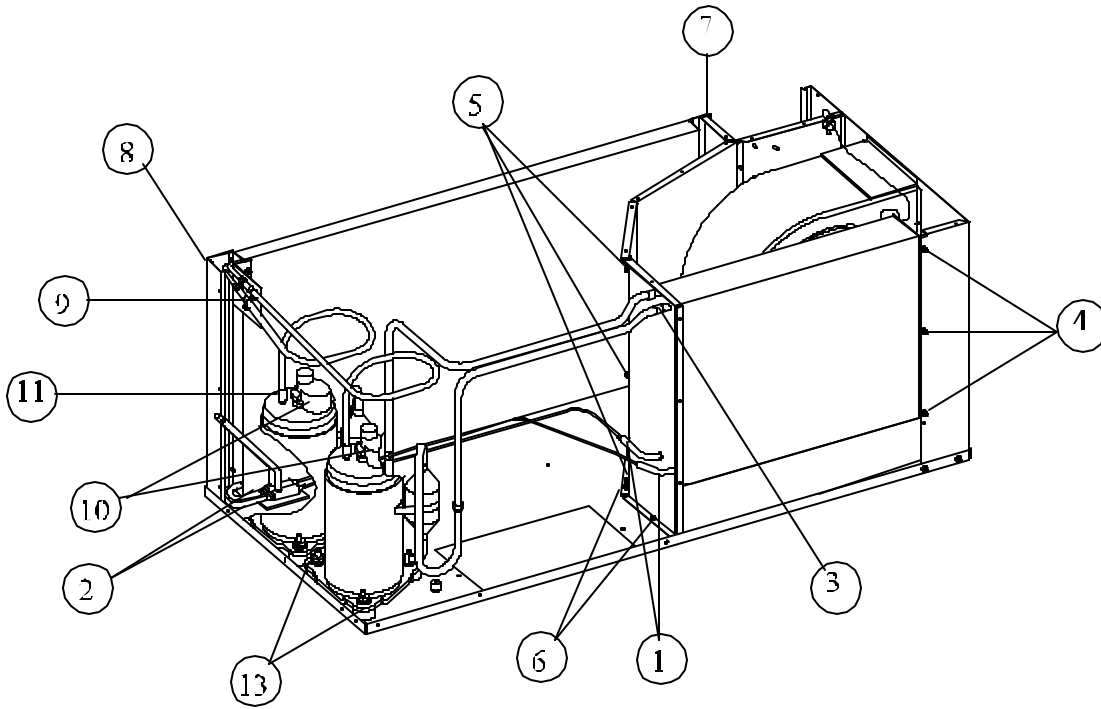

FIGURE 12
5. Unbraid cap tube assembly/assemblies from points (See #1 and #2, Figure 12). Make note of plumbing and cap tube locations (the replacement tubes will have to go back to the same locations).
3. Unbraid joints #1 and #3, Figure 12.
5. Remove screws (#4, #5, #6, Figure 12).
6. Upon reassembly, the references made on Figure 12 shall be used for proper reassembly.
2. Remove screws along wirebox side of coil (See #7, Figure 12).
3. Remove corner panel (See Figure 12).
6. Unbrazed discharge and liquid lines at points #2 and #9, Figure 12.
4. Remove terminal caps (See #10, Figure 12).
6. Unbrazed plumbing at points #11 and #12, Figure 12 (protect any wiring and insulation from torch flame).
7. Remove mounting nuts and washers (See #13, Figure 12).